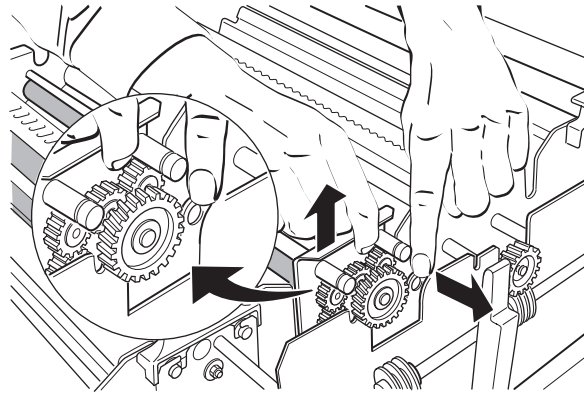

Figure 15
- Press the latch clip outwards, so the rack can be removed (fig. 15).